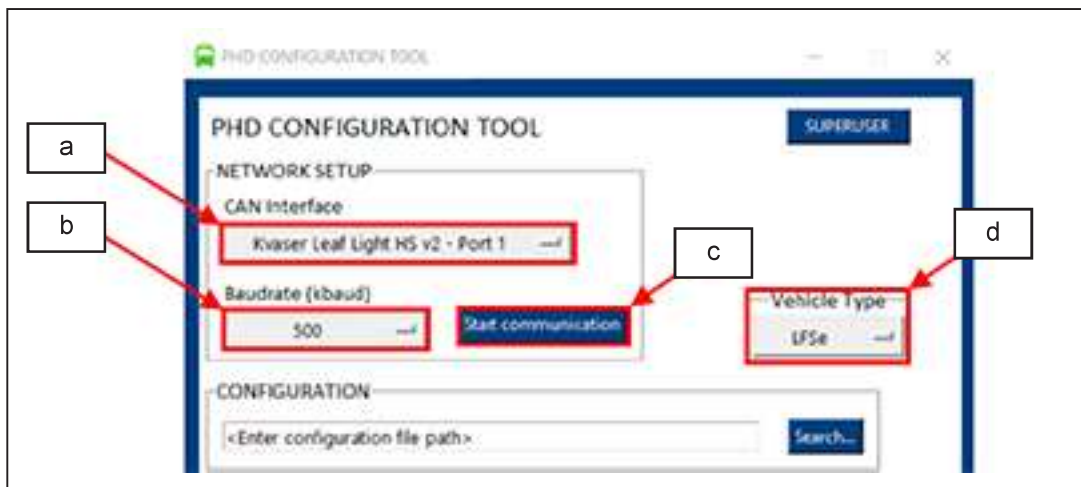

Figure 17 - Network Setup Section
- a. In the **CAN Interface** box select **port 1**. See Figure 17.
- b. In the **Baudrate (kbaud)** box, select **500**. See Figure 17.
- c. In the **Vehicle Type** box select **LFSe+**. See Figure 17.
- d. Click the **Start communication** button. See Figure 17.